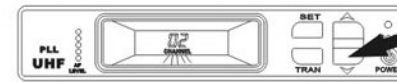

FIGURE 14
b. Press the ▲ or ▼ button. choose the channel's data which you need(Figure 14)